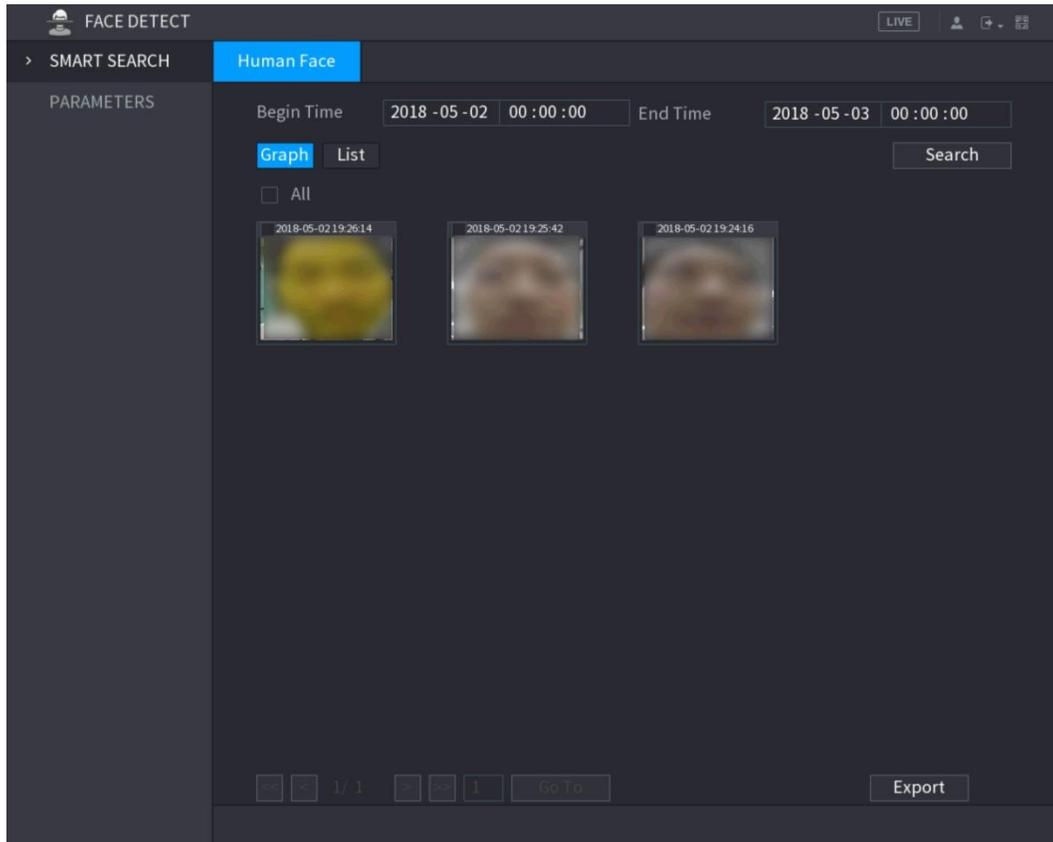
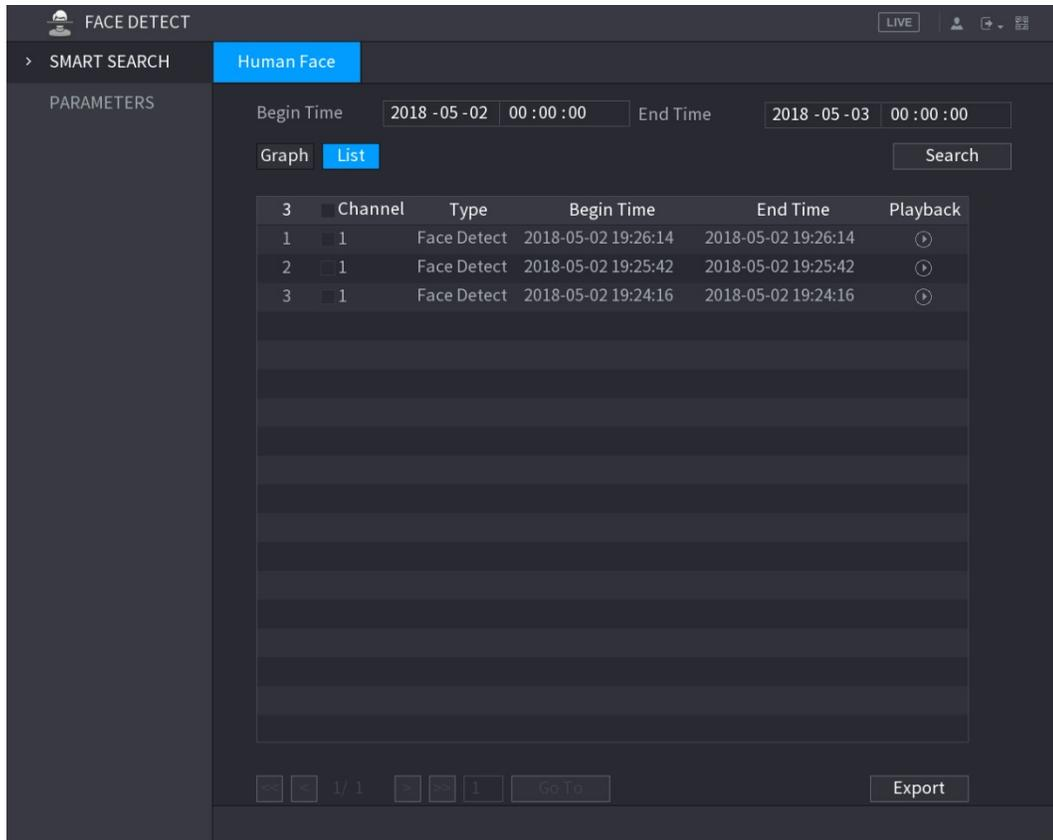
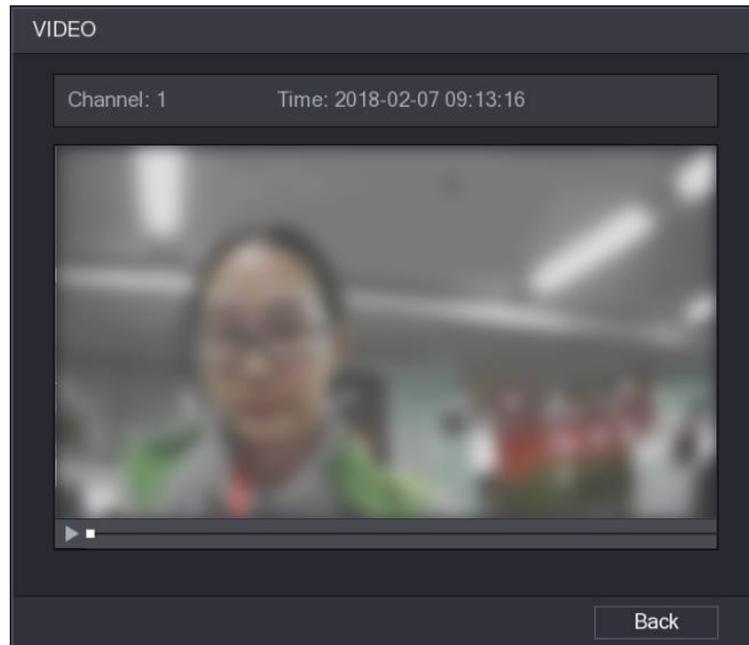

Figure 5-158
Figure 5-159
Figure 5-160
The faces searched in the defined period are displayed. See Figure 5-158 or Figure 5-159.
Step 1 On the displayed faces as shown in Figure 5-158, double-click on the face. The **VIDEO** interface is displayed. See Figure 5-160.